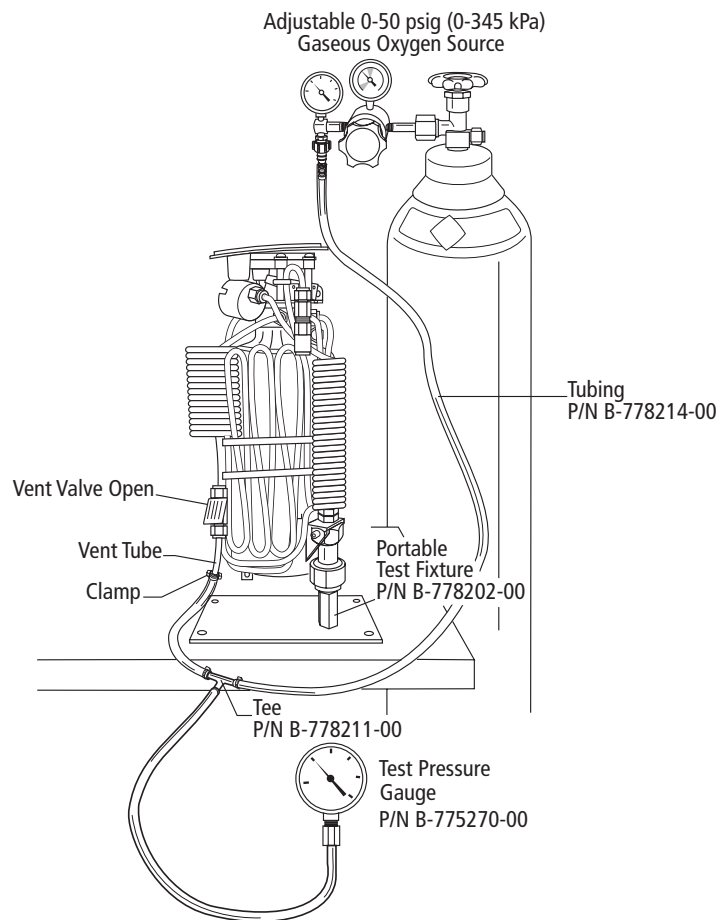

Figure 3-1: Pressurizing the Companion 1000/T through the Vent Circuit
2. **Warm, Empty Unit:** Pressurize the Companion 1000/T Portable to approximately 22 psig (152 kPa) with gaseous oxygen using the portable pressurizing setup and gaseous oxygen supply (Figure 3-1). Close the vent valve after pressurizing the unit and remove the pressurizing setup from the vent tube.
2. **Warm, Empty Unit:** Use the pressurizing setup (Figure 3-1) to pressurize the Companion 1000/T until the primary relief valve vents (approximately 22 psig/152 kPa). Close the vent valve and remove the pressurizing setup. Connect the test pressure gauge to the oxygen outlet barbed fitting and set the flow control valve to the highest setting. Record the pressure gauge reading and the time.
1. Connect the pressurizing setup to the Companion 1000/T (Figure 3-1).